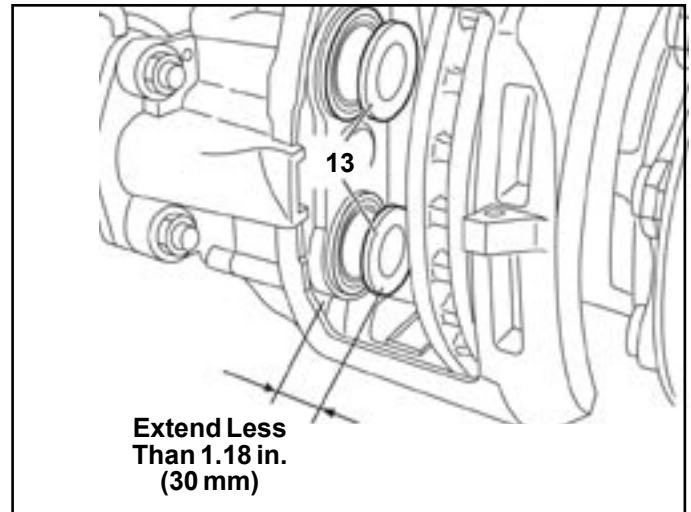

FIGURE 30 - TAPPET EXTENSION LIMIT
To install the outboard brake pad (12), slide the caliper (1) fully to the outboard position before inserting the pad (with the brake lining material facing the rotor). Similarly, to install the inboard pad, move the caliper fully to the inboard position, and then install the brake pad (with the lining material facing the rotor). See Figure 30.